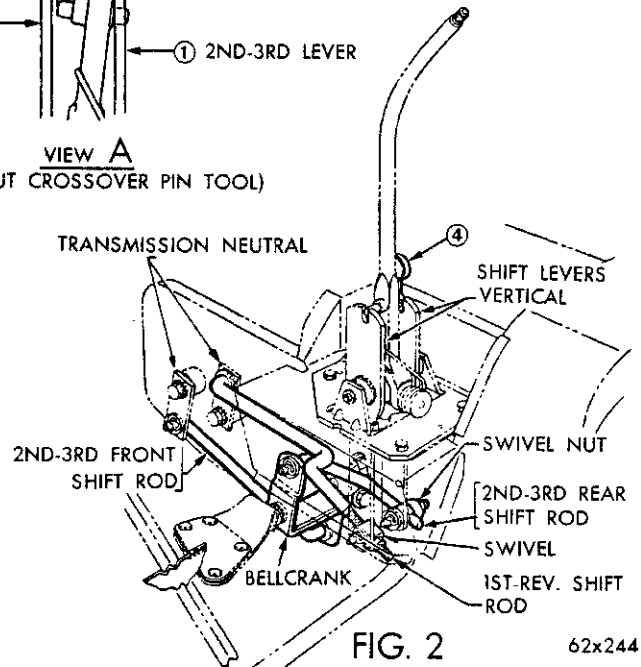

Fig. 12—Gearshift Linkage Adjustment
(1) Remove the screws that hold the upper boot and retaining ring to the floor pan.
(2) Remove the retaining ring and slide the boot up on the gearshift lever far enough to expose the shift mechanism.
(3) Disconnect the first and reverse shift rod by removing the spring clip, flat washer and the wave-washer. Disengage rod from lever.
(4) Disconnect the second and high shift rod by removing the spring clip, flatwasher and the wave-washer. Disengage the rod from the lever.
(5) Place the transmission shift levers in the neutral position and refer to Figure 12 as follows: